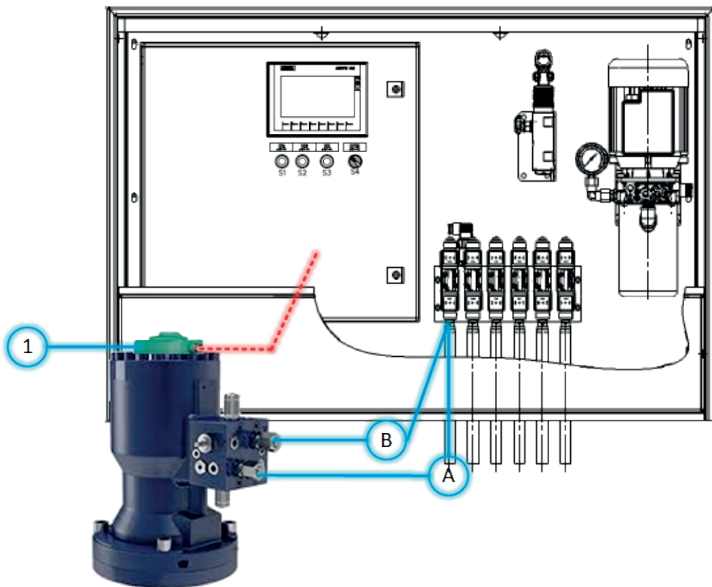

Figure 9. "A" and "B" ports in the control valve block
3. Connect the hydraulic hoses to the control cabinet connections (A and B). The hoses are connected below the valve block. See figure 9 (cabinet overview). Hose B is connected to the front and hose A behind it. The control system is based on the operation of A and B as follows.